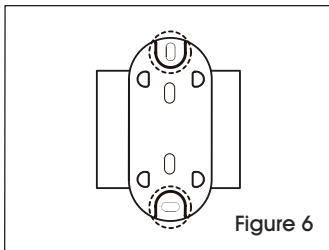

Figure 6
2. Mark mounting holes on wall using the display wall mount bracket as a template. (See Figure 6)